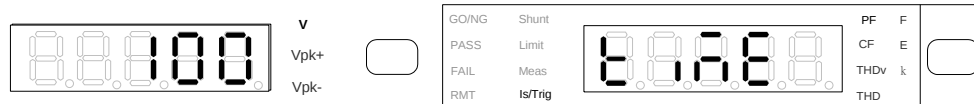

Figure 4-40 Setting TIME and Time Length
6. In the special measurement display a blinking pattern will appear. Use **↑**, **↓** to select time and press **Trig/Enter** to save the setting and go to measurement Time (ms) selection display as shown in Figure 4-40.